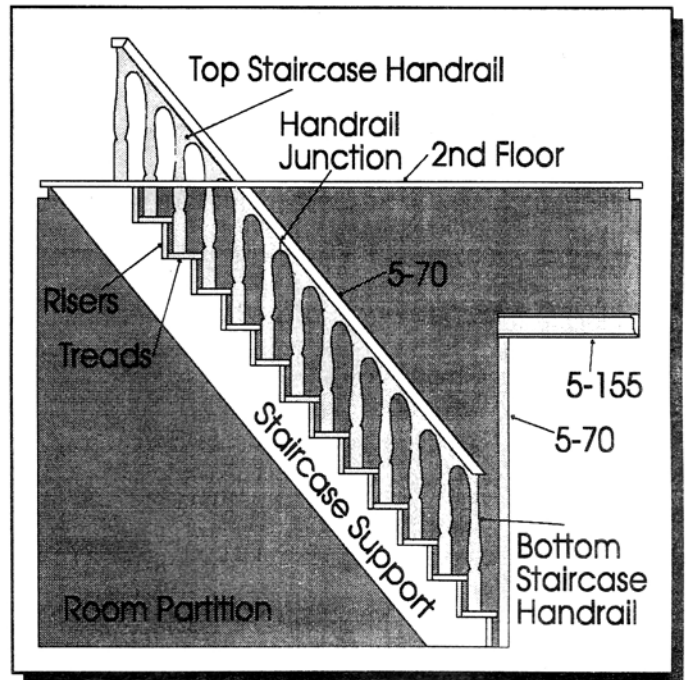

Figure 32
6. When installing, treat the 2nd floor opening as a tread. Insert the staircase making the 2nd floor opening overhang the top riser 1/8". Glue and tape into position. Repeat for 2nd Floor Staircase assembly. See Back View and Figure 32.
8. Glue 5-70 to the top edges of all staircase Handrail parts as shown in Figure 32.
9. Install as in back view and Figure 32.